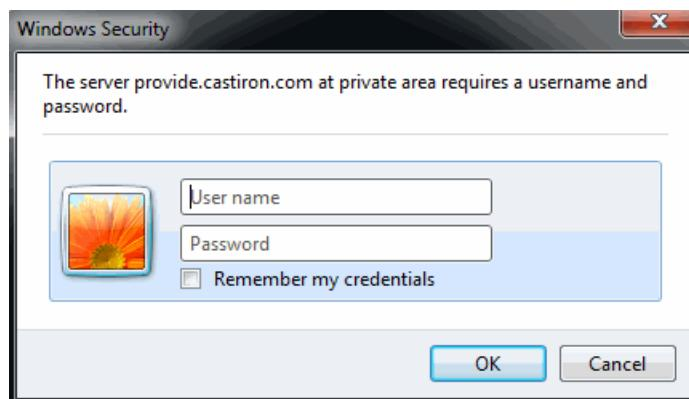

Figure 11-47 Cast Iron Live request for credentials
- When prompted, enter your Cast Iron Live login credentials, as shown in Figure 11-47. (The dialog box that displays varies according to the browser that you use to log in.) These credentials determine the tenant to which to send the request. If your login is successful, you receive a message.